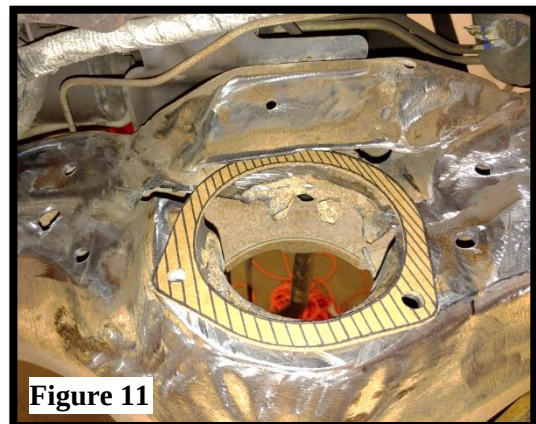

Figure 11
22. Place the circular template on top of the spring perch lining up the two drilled holes. **(Figure 11)** This template will be used to remove the inner "fingers" of the factory spring perch and a small portion of frame above the spring perch.